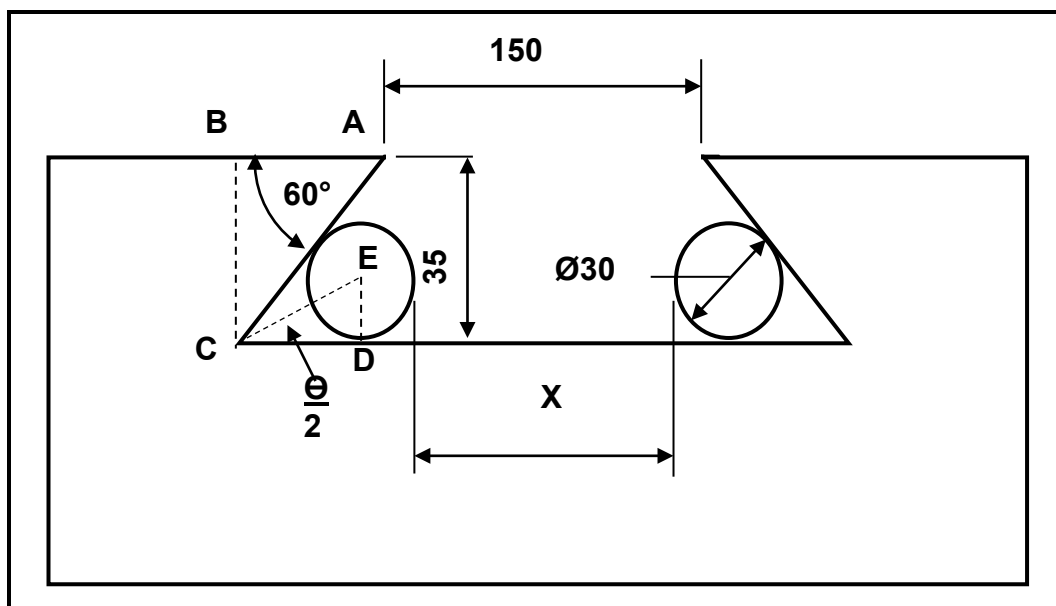

FIGURE 6.4
- 6.4 FIGURE 6.4 below shows a dovetail groove. Calculate distance **X** between the rollers in FIGURE 6.4.